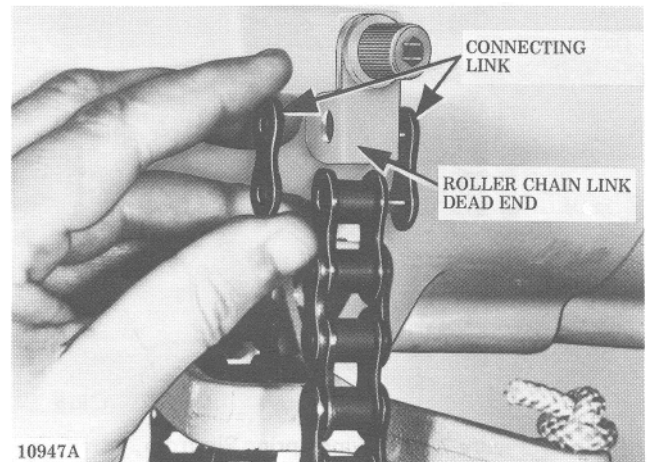

Figure 7-1. Removing Connecting Link at Tail End of Load Chain (Roller Chain Models).
(3) **Roller Type Load Chain.** Visually check for possible twists, broken links, wear or elongation. Check roller chains for elongation from wear by pulling chain taut and measuring as follows: On RC-625 or H-5 size chain (5/8" pitch), measure distance over a length of 20 pitches (center-to-center distance between 21 rivets) - it must not exceed 12-3/4 inches. If chain exceeds this limit, replace damaged section or install new load chain assembly. Check chain for twist. If twist in any 5' extension exceeds 15°, replace chain. Check chain for camber. If any section has side bow exceeding 1/4" in five feet, replace chain. Use only factory approved chain. If chain is to be spliced to replace damaged section, it is recommended that this be done by a recognized CM Repair Station, since splicing link must have a spun head requiring special tools. Spring link must not be used except to secure the tail chain to the hoist frame. (See Figure 7-1.)
- (1) On models with single reeved load chains (1/4, 3/8 and 1/2 ton), disconnect end of load chain from tail end anchor boss at side of hoist frame. Remove chain anchor, by prying off spring clip and remove connecting link, attaching chain to anchor boss on roller chain models (Figure 7-1). Remove socket head cap screw, holding end
- (2) On models with double reeved chains (3/4 and 1 ton), disconnect end of chain as in paragraph (1) above, run chain out of hoist by operating it in "lowering" direction, and disconnect opposite end of chain from anchor at side of upper suspension bracket.
- (3) On single reeved 1/4, 3/8 and 1/2 ton models, separate load chain (coil or roller type) from lower block assembly. Drive out small spring pin securing lower block pin in lower block and push out lower block pin to release chain. On roller chain models, an adapter is used to attach chain to lower block. This adapter is removed from end of chain by first driving out small spring pin and then pushing out adapter pin.
- (4) Lower blocks (1/4, 3/8 and 1/2 ton) are of a pinned construction, permitting individual replacement of body, thrust bearing, or hook. To disassemble, drive spring pin from hook nut. With pin removed, hold hook nut from turning with drift punch and rotate hook to unscrew it from nut. Separate hook, bearing shield, needle bearing and two thrust washers from body. Hook and nut are drilled at assembly and are replaced only as an assembly.
(5) On 3/4 and 1 ton (double reeved) models, the lower block assembly is disassembled by removing socket head screws and nuts holding body halves together.